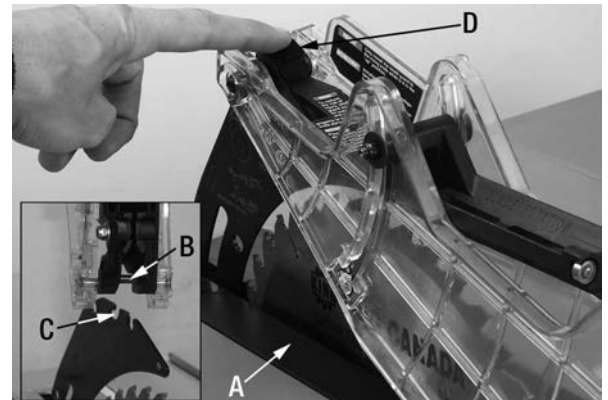

FIGURE 12
2. Make sure the table insert (A) Fig.12 is installed in the table top opening.
3. Lower the back end shaft (B) into the middle slot (C) of the riving knife. Pull the blade guard lock lever (D) toward the front of the saw then pivot the blade guard towards the front of the saw. Once the blade guard is parallel to the table, lock the blade guard to the riving knife by pushing the lock lever down to the lock position. Lift the blade guard up to check if it was locked securely.